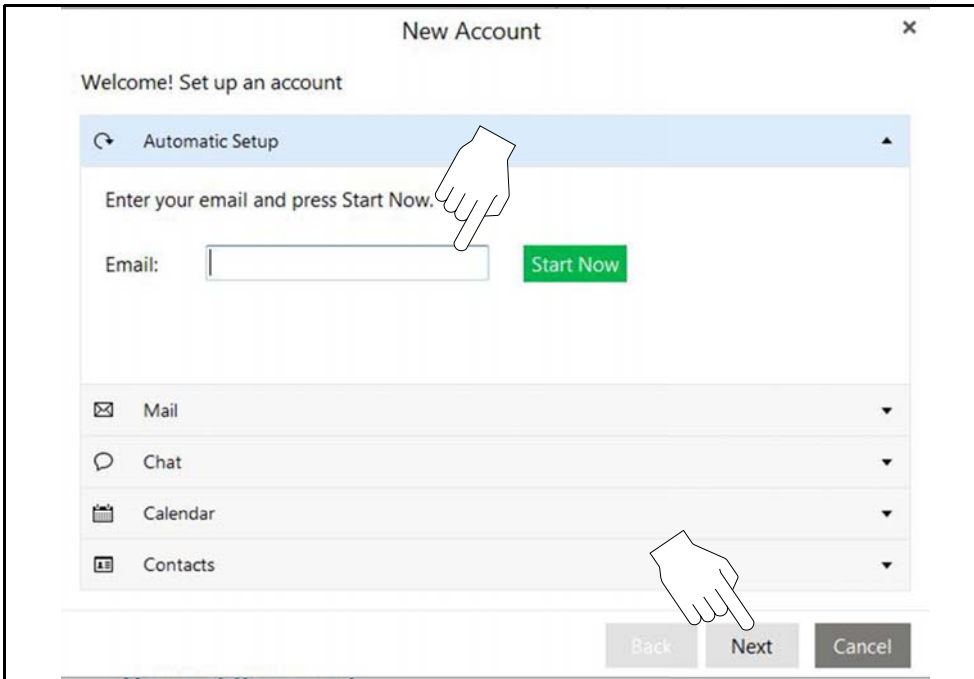

Figure 1-11
4. Enter your e-mail information as required (Figure 1-11).